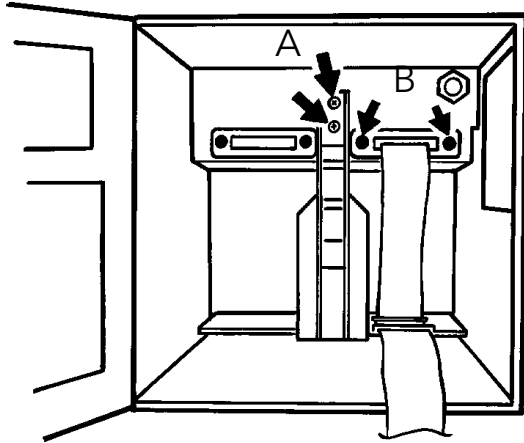
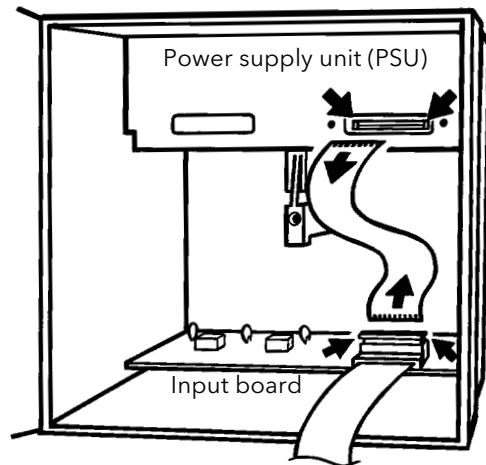

Figure 4
Figure 5
Note: As can be seen from figure 3 above, flexi cable attachment and location of the input board varies with recorder model. For this reason, the flexi routing in your recorder may vary slightly from that shown, particularly in figures 4, 5 and 8.
6. Remove the circuit board retainer by undoing the screws (A in figure 4).
9. If no other option boards are fitted, as shown in figure 5, remove the power supply unit (PSU) connector cover (if fitted) by prising out the plastic rivets (B in figure 4), lift the PSU connector 'ears', and pull the 'flexi' cable out. Similarly, for models 4103 only, remove the other end of the flexi from the connector on the input board. If slot 3 is to be used for the first time, go to step 11, otherwise, continue at step 12.